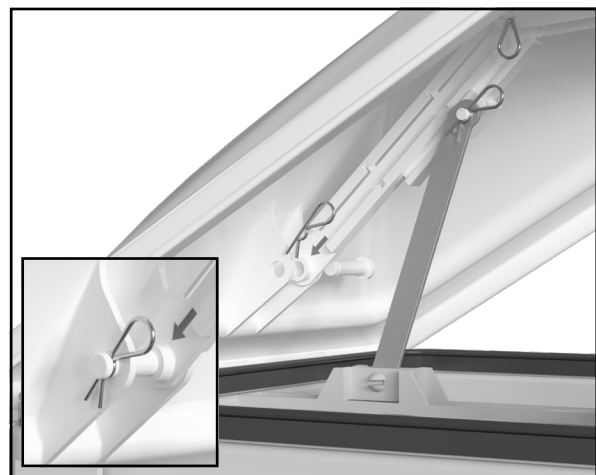

Figure 21
- I. Allowing the lift arm to control the left/right position of the cross bar, slide a hinge pin thru the hole in one side of the cross bar mount on the inside of the lid, thru the cross bar and thru the other side of the cross bar mount. It doesn't matter which way the pin goes and it doesn't matter if you do the front or rear first. **(Figure 21)**
- II. Secure with a hair pin. **(Figure 21 Inset).**